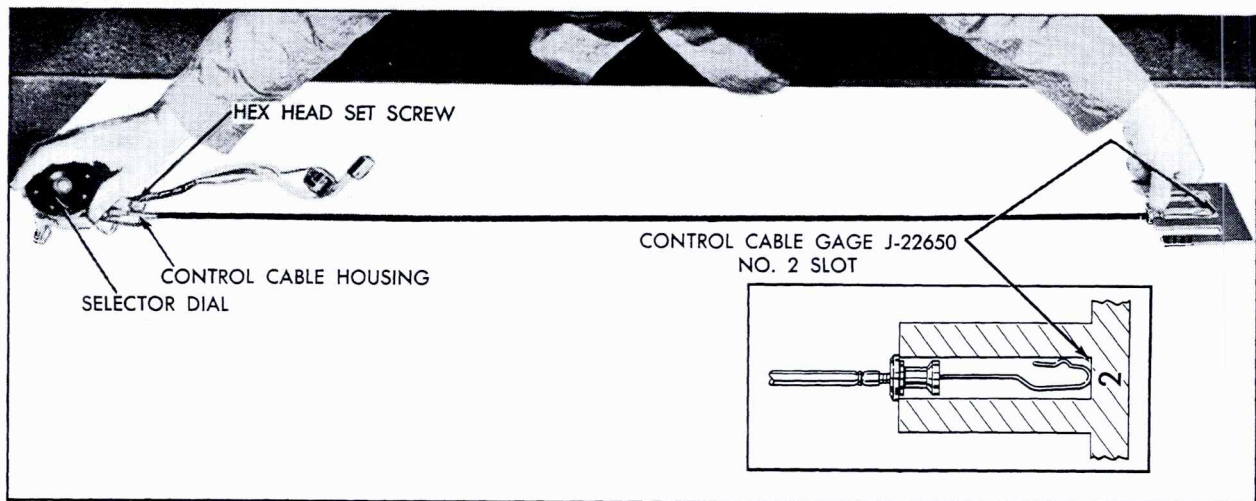

Fig. 15-12 Control Cable Adjustment
5. Thread control cable housing until it is approximately half-way out of control cable clamp. Position No. 2 center slot of Control Cable Gage, J-22650, so that end of hook touches stop on gage. Hold hook and gage in this position and thread toward selector control assembly until gage bottoms on ferrule of control cable. While holding in this position, tighten hex head set screw at control cable clamp, Fig. 15-12.